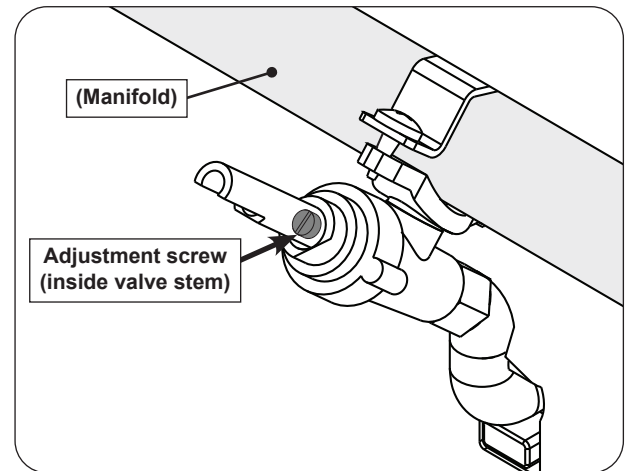

Fig. 53-1 Valve adjustment screw location
4. Locate the FLATHEAD adjustment screw found inside the valve stem (see Fig. 53-1).